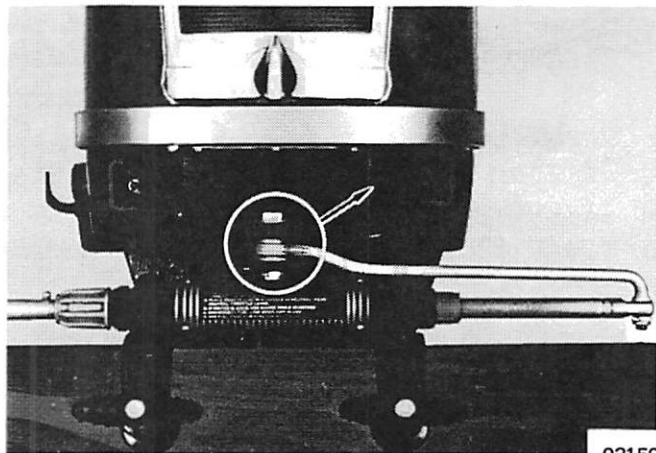
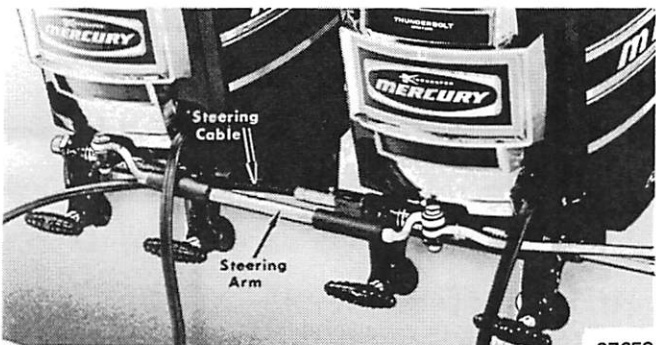

Figure 5. Attachment Kit Installed
Figure 6. Steering Cable Installation (Optional)
1. Ride-Guide cable may be routed on either the right or left side of boat. It is, however, necessary to install the cable on the far engine; i.e., cable is installed on left engine if cable is routed on right side of boat (Figure 5 or 6), and cable is installed on right engine if cable is routed on left side of boat.
3. Insert cable end thru tilt tube and secure with large fastening nut. (Figure 5 or 6)
*NOTE: For a neat-appearing and efficient cable installation, place Ride-Guide cable thru tilt tube on one engine (Figure 5) by sliding steering wheel end of cable thru tilt tube before installing to the steering wheel. If unable to complete this installation, install as shown in Figure 6.*
1. Attach kit to engines as shown in Figure 5 or 6.